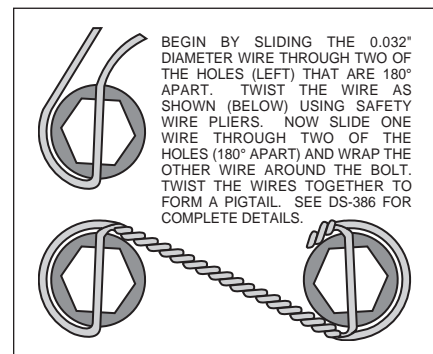

Figure 2. Safety Wire Diagram
- Safety wire bolts (4) using standard 0.032 inch diameter stainless steel safety wire as shown in Figure 2. Please refer to Wilwood's data sheet DS-386 (available at [www.wilwood.com/Pdf/DataSheets/ds386.pdf](http://www.wilwood.com/Pdf/DataSheets/ds386.pdf)) for complete safety wire installation instructions.